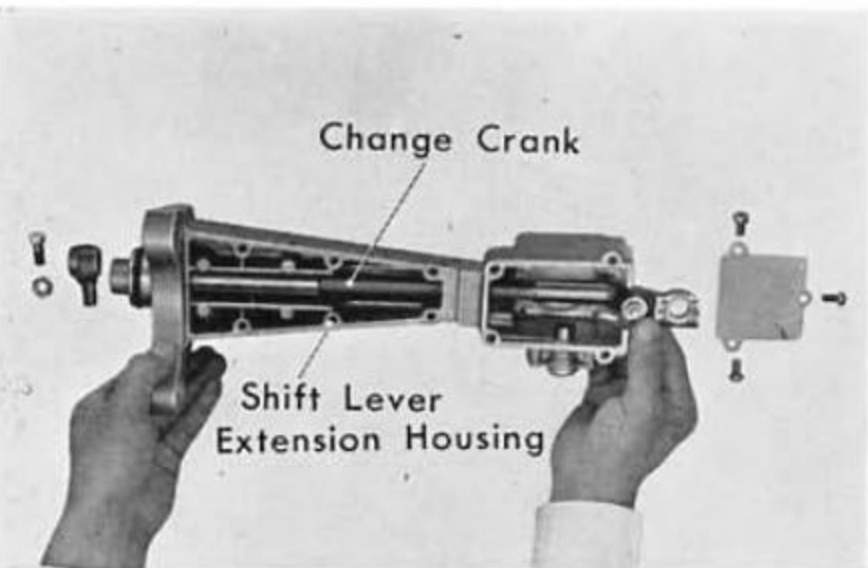

Fig. 6C-9
5. Remove the guide pin and disassemble the crank from the extension (Fig. 6C-6).